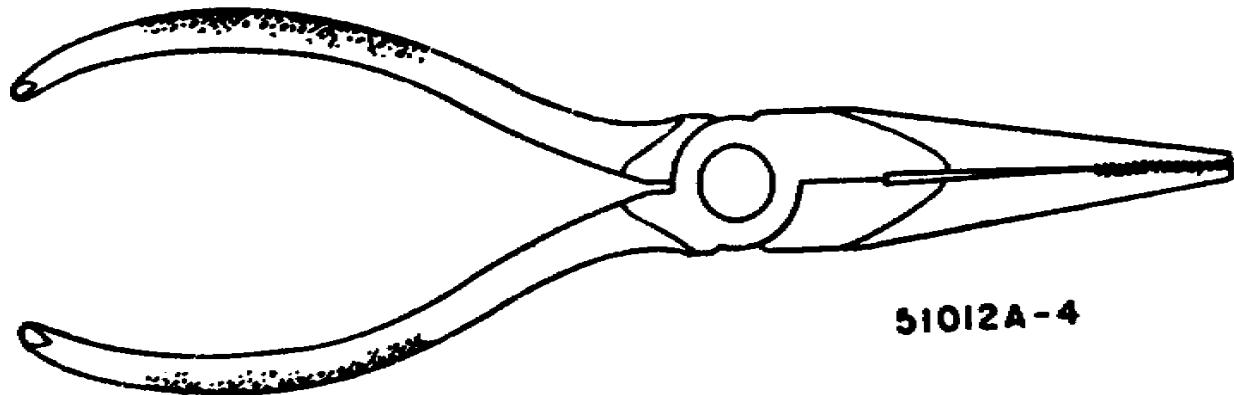

Figure 3. Longnose pliers.
(3) Longnose pliers (fig. 3). Also called needle nose pliers, this tool can be used to bend loops, to attach wires to terminals, to grip small-diameter wire and other objects in hard-to-get-at places, and to aid in a variety of fairly delicate manipulations. In some models of this tool, the jaw includes diagonal cutting edges near the pivot. Most models have jaws with teeth; others may have smooth jaws, without teeth. With rubber bands stretched tautly across the handles, the longnose pliers will serve additionally as either a light-duty clamp or a heatsink when soldering. There are variations of needle-nose pliers, some of which you'll see in Tool Kit TK-105/G.